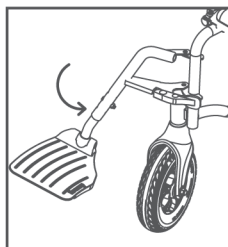

Figure 10
- Installation and disassembly of movable legs: 1. Align the buckle hole with the eject pin on the wheelchair, clasp the movable leg, and then rotate it in the direction of the arrow. When you hear a click, the installation is completed. 2. Installation of leg straps. Disassembly: 1 Remove the leg strap. 2. Open the buckle and rotate it outwards to remove it upwards. See Figure 10. Note: You must confirm that the movable leg is fixed to avoid accidents after it is installed.